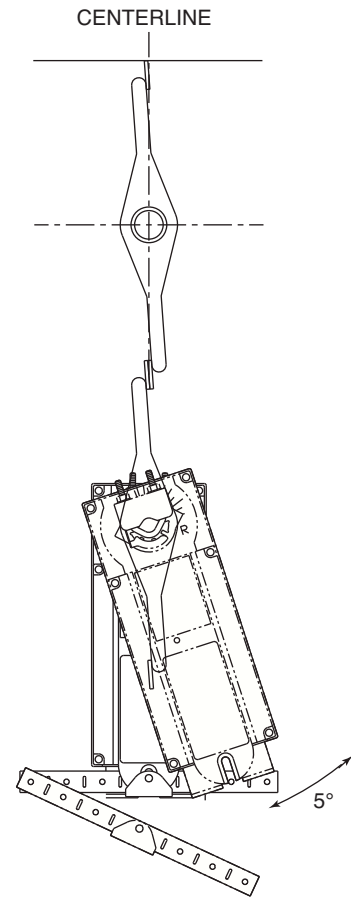
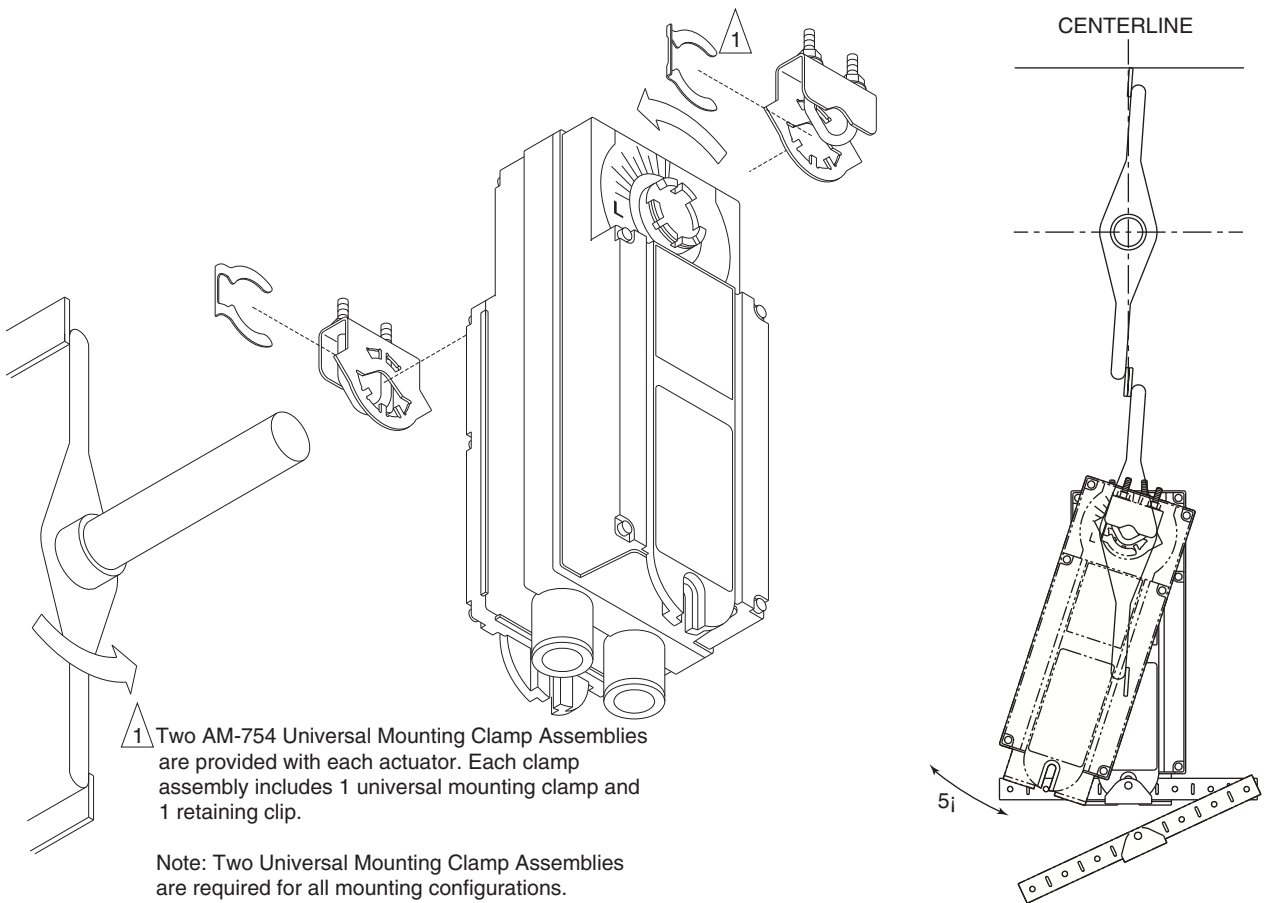

Figure-10 Long Damper Shaft Mounting with Clockwise Spring Return for Normally Closed Damper.
Figure-11 Long Damper Shaft Mounting with Counterclockwise Spring Return for Normally Closed Damper.
- If the damper shaft rotates clockwise to the closed position, mount the actuator with the side marked “R” facing the installer. See Figure-10.
- If the damper shaft rotates counterclockwise to the closed position, mount the actuator with the side marked “L” facing the installer. See Figure-11.
2. Slide the actuator over the shaft and into its desired final mounting position. See Figure-10 or Figure-11.
6. Attach one side of the anti-rotation bracket to the mounting surface with one of the screws provided. Leave the screw loose so that the bracket can be rotated. See Figure-10 for clockwise or Figure-11 for counterclockwise spring return.
7. Pivot the anti-rotation bracket away from the actuator. See Figure-10 or Figure-11.
8. Loosen the universal mounting clamps, making sure not to move the damper shaft. Rotate the actuator approximately 5° in the direction which would open the damper. See Figure-10 or Figure-11.
10. Manually rotate the actuator toward the full-closed position to apply pressure to the damper seals. See Figure-10 or Figure-11.
11. Pivot the anti-rotation bracket into place and secure the other side of the bracket onto the mounting surface using the other screw provided with the actuator. See Figure-10 or Figure-11.
12. Verify that the damper is in its full-closed position and actuator at 90° (perpendicular) to the damper shaft. See Figure-10 or Figure-11.
9. Attach one side of the anti-rotation bracket to the mounting surface with one of the screws provided. Leave the screw loose so that the bracket can be rotated. See Figure-10 for clockwise or Figure-11 for counterclockwise spring return.
10. Pivot the anti-rotation bracket away from the actuator. See Figure-10 or Figure-11.
11. Loosen the universal mounting clamps, making sure not to move the damper shaft. Rotate the actuator approximately 5° in the direction which would open the damper. See Figure-10 or Figure-11.
13. Manually rotate the actuator toward the full-closed position to apply pressure to the damper seals. See Figure-10 or Figure-11.
14. Pivot the anti-rotation bracket into place and secure the other side of the bracket onto the mounting surface using the other screw provided with the actuator. See Figure-10 or Figure-11.
15. Verify that the damper is in its full-closed position and actuator at 90° (perpendicular) to the damper shaft. See Figure-10 or Figure-11.